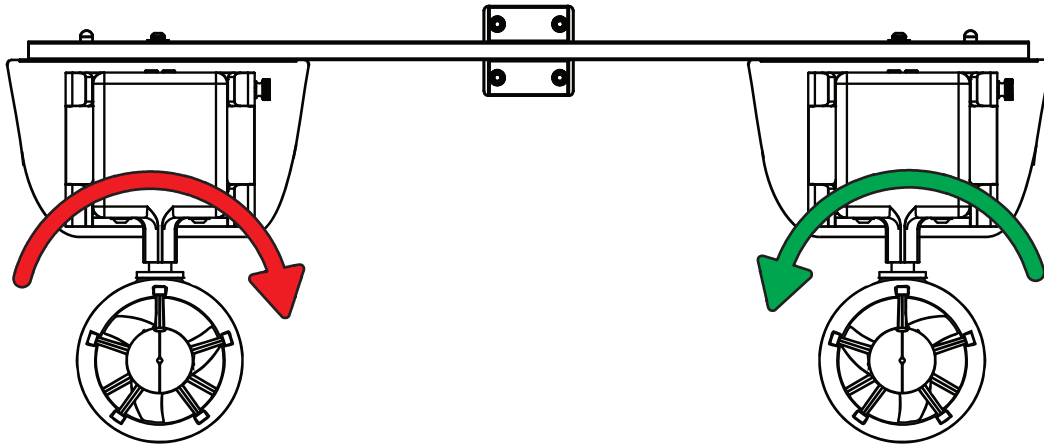

Figure 57: Hydrone™ AutoNav Plus™ Servo Prop Rotation
- Motor must rotate clockwise(CW) (Figure 57)
- Motor must rotate counter-clockwise(CCW) (Figure 57)